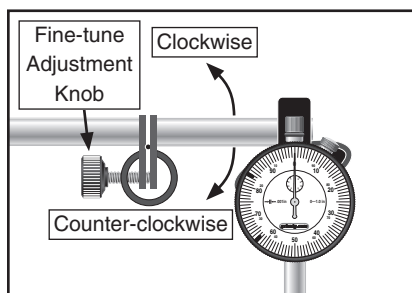
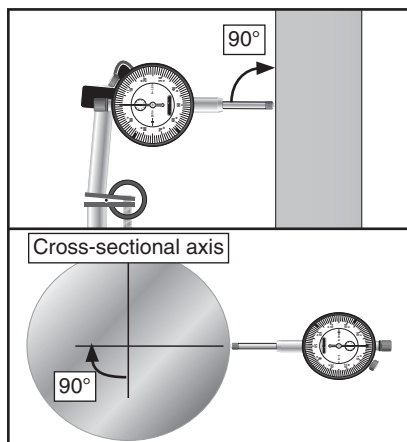

Figure 8. Fine-Tune Adjustment.
Figure 9. Positioning the contact point.
4. If the dial indicator is in position but the measuring angle is still not exact, the fine-tune adjustment knob may be turned clockwise or counterclockwise to change the angle of the boom, as shown in **Figure 8**. It can also be used when setting the contact point, as shown in **Figure 9**.
2. Adjust the dial indicator so that it is perpendicular (at a 90° angle) to the object being measured. The contact point should touch the object, as shown in **Figure 9**.
Note: If the object being measured is cylindrical, position the dial indicator perpendicular to both the cross-sectional axis and the longitudinal axis of the object, as shown in **Figure 9**. When the object rotates, the needle of the dial indicator will show the lateral motion or deviation of the object.